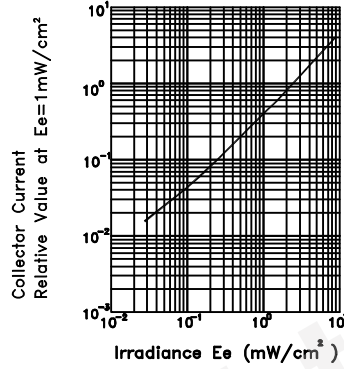

Fig.5 Collector Dark Current vs. Ambient Temperature
5. Maintain a minimum of 3mm clearance between the base of the LED lens and the first lead bend. (Fig. 5 and 6)